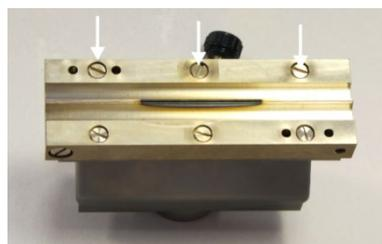

Fig. 47 Screws on the front burner jaw
1. Unscrew the screws from the front burner jaw (arrows in Fig. 47).